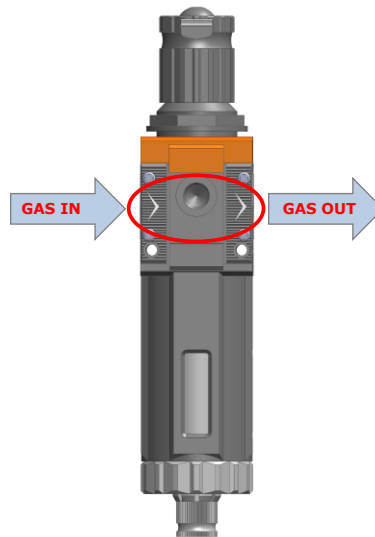

Figure 6. Input and Output gas ports. See symbol on the rear of Pressure Gauge.
1. Install the **pressure Gauge for the CO2** between the CO2 supply and CO2-O2-UNIT-BL [0-20; 1-95]. Follow the arrow on the rear of the Pressure Gauge for the correct Gas In-Out (see Figure 6).